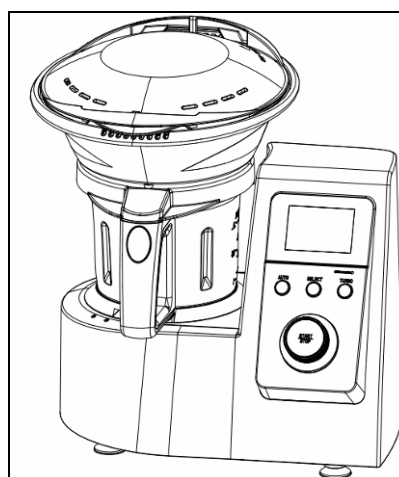

Figure 22
Step 3: Cover the steaming pot at last (Figure 22), steaming air wouldn't release out from.